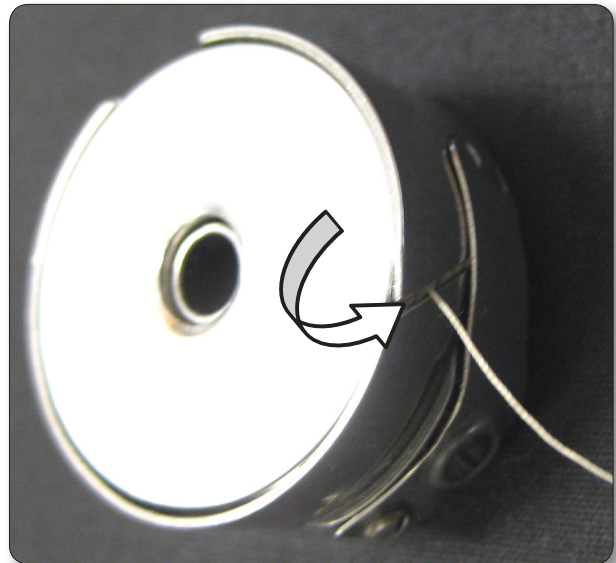

Figure 18
2. Slide the thread through the slot (Figure 18) and under the tension spring leaving 5-6 inches of thread hanging loose (Figure 19, next page).